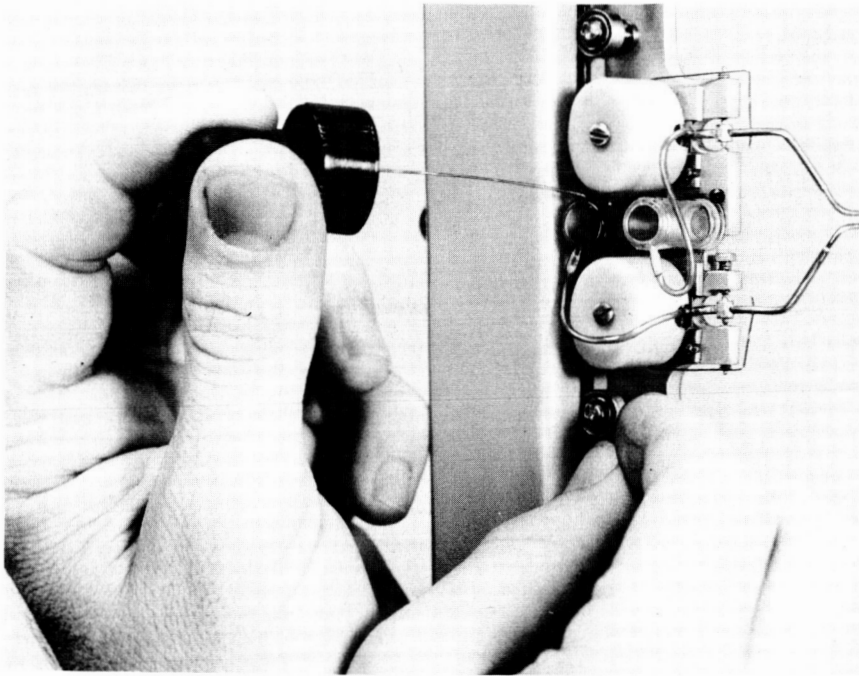

Figure 3-2. Refilling Ink Wells
- b. Fill the required well approximately  $\frac{3}{4}$  full at the outboard hole, by means of the filling needle. (See Figure 3-2).